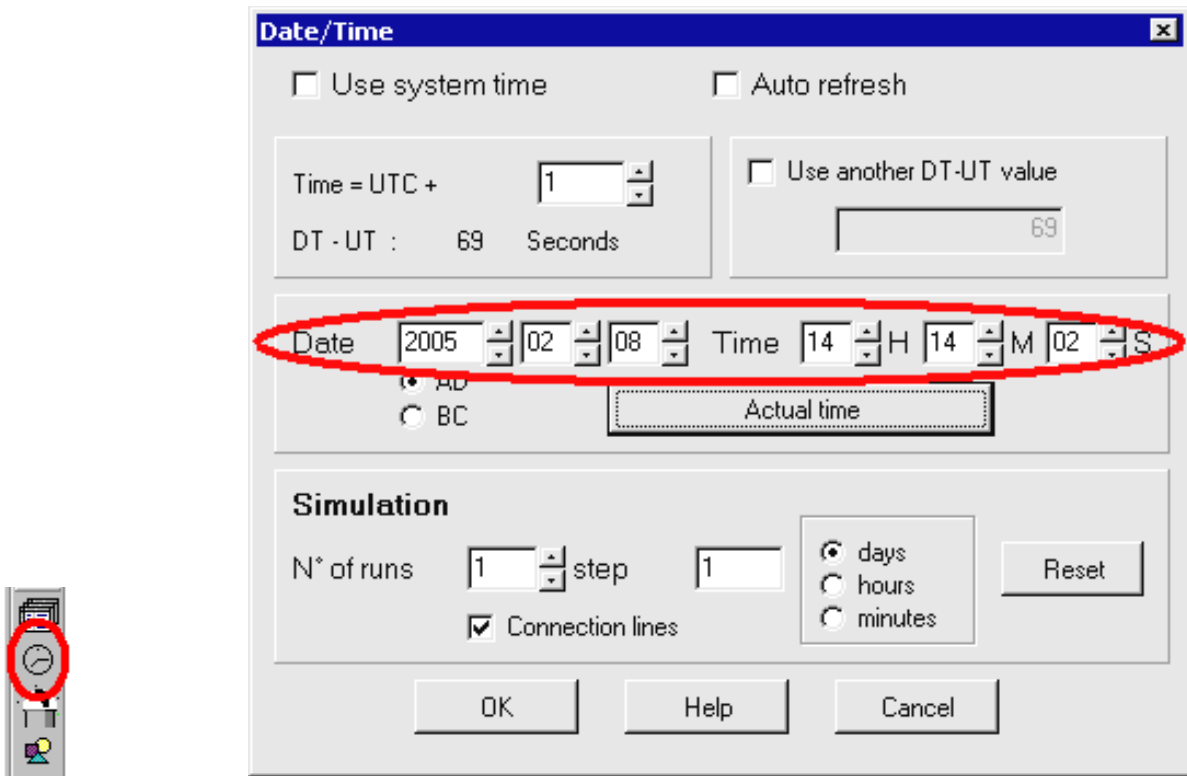

Figure 14 Setting Date and Time
3. Press the "Date/Time" button and specify date/time for which you would like to know the position of astronomical object (Figure 14). Check that the local time is calculated with the correct offset according to UTC. Don't forget the daylight savings time in summer.